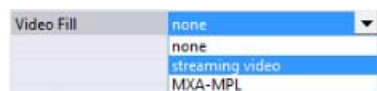

FIG. 167 TPDesign5 - Video Fill (State) property
9. In the desired state tab, set the *Video Fill* property to **streaming video** (FIG. 167). Note that this selection enables the *Streaming Source* property.